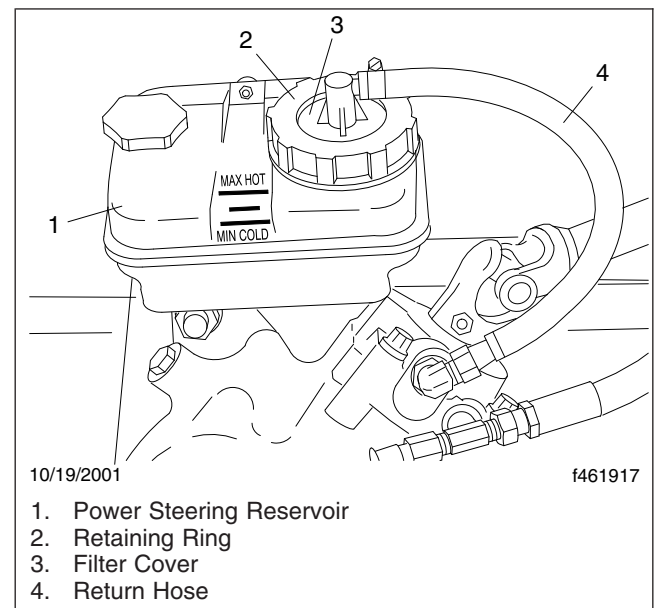

Fig. 1, Power Steering Reservoir
3. Remove the retaining ring from the reservoir. See Fig. 1.
7. Fill the reservoir with an approved power steering fluid to the line between the MIN COLD and MAX HOT lines. See Fig. 1. See Table 1 for approved power steering fluids.